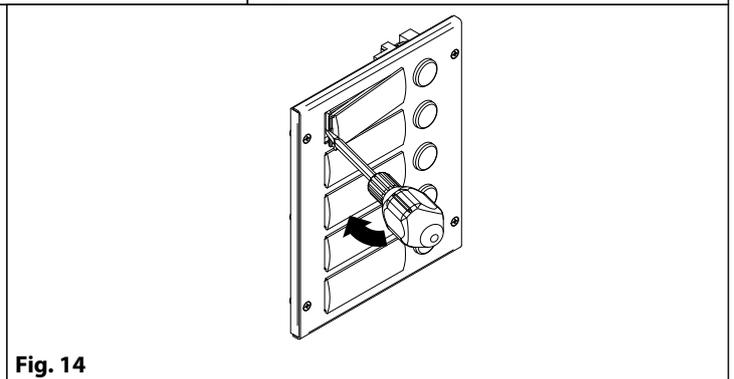

Fig. 14
- Move the screwdriver to the left as shown in **Fig. 14** to extract the card name holder;